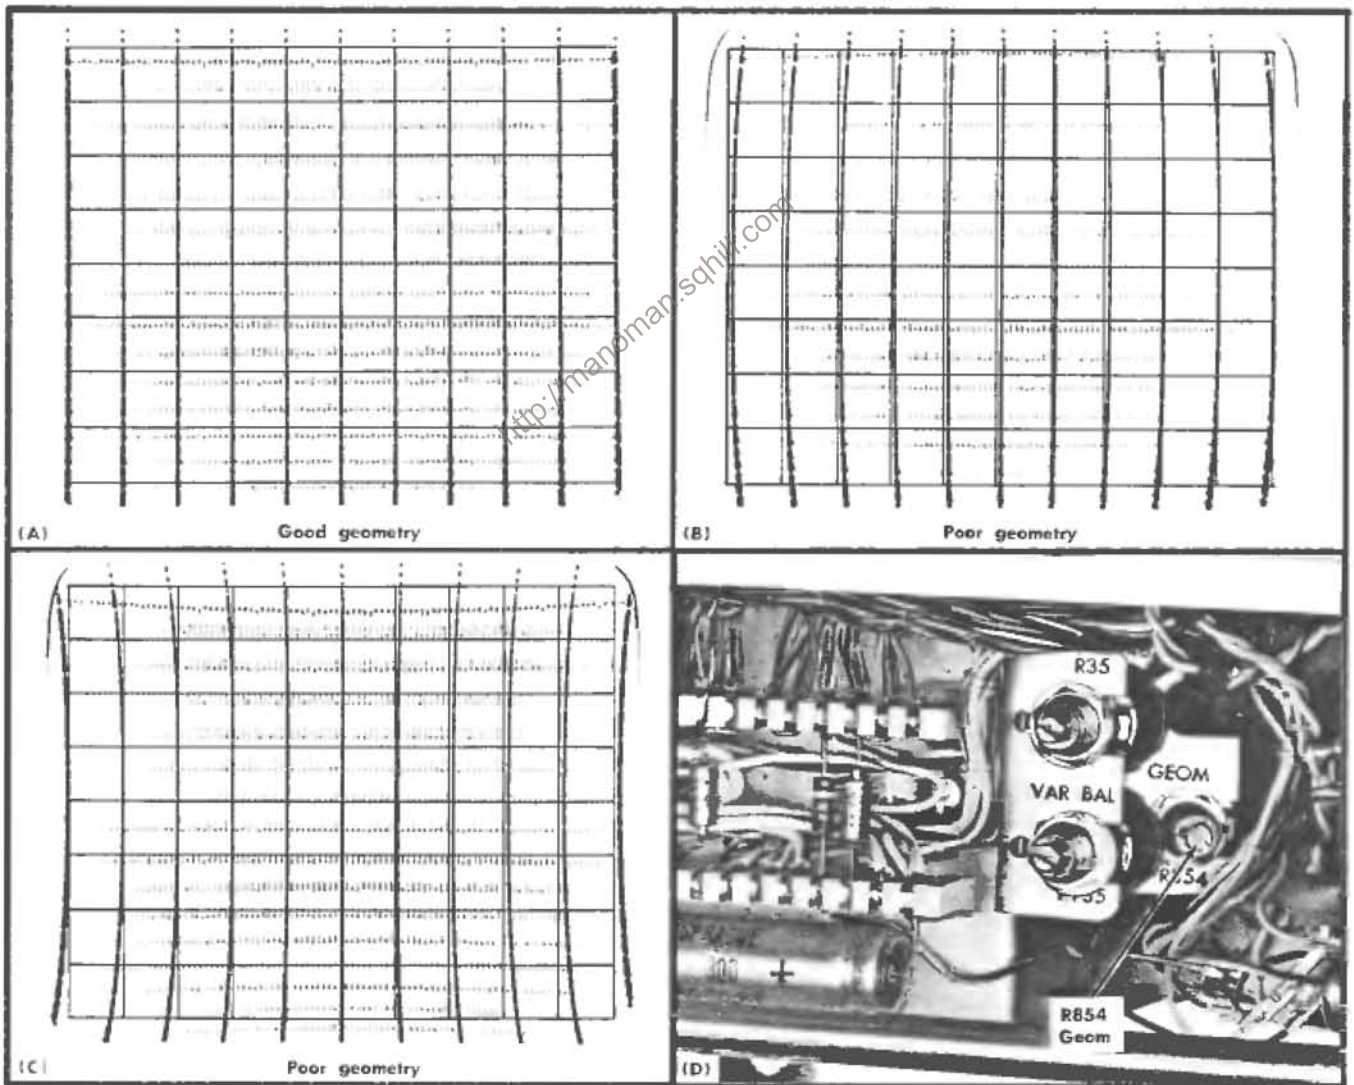

Fig. 6-12. (A) Typical CRT display of good geometry; (B) and (C) poor geometry; (D) location of Geom adjustment (left side).
- CHECK—CRT display for minimum bowing of the markers at the left and right edges of the graticule. Fig. 6-12 shows a typical display of good geometry as well as examples of poor geometry.